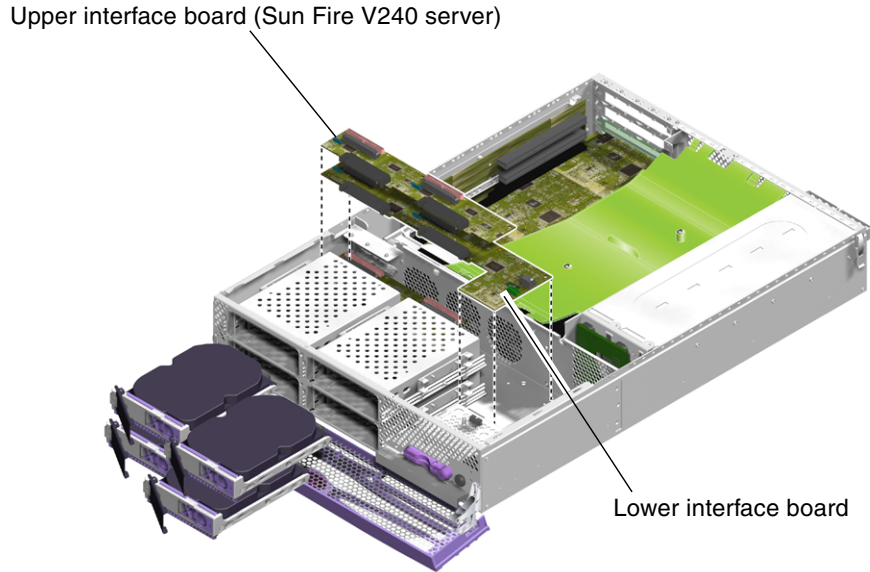

FIGURE 1-22 Removing the Interface Boards
8. Lift the UIB out of the server's chassis (FIGURE 1-22).